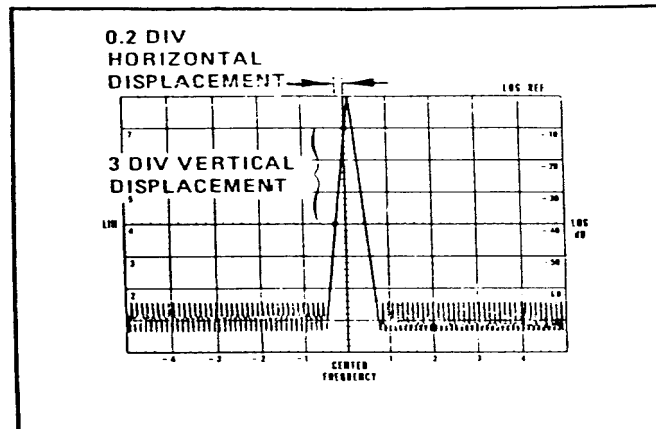

Figure 14. Local oscillator stability
- (2) Position TI controls as listed in (a) through (e) below:
- (3) Set IF plug-in **SCAN TIME PER DIVISION** switch to 2 ms and **LOG/LINEAR** switch to **LINEAR**.
- (4) Adjust signal generator output for 100 MHz CW at -30 dBm.
- (5) Adjust **LINEAR SENSITIVITY** control and **LINEAR SENSITIVITY (LOG REF LEVEL vernier)** vernier control as necessary to obtain a full 8-division display.
- (6) Adjust **FREQUENCY** and **FREQUENCY FINE TUNE** controls as necessary to center display.
- (7) Readjust **FREQUENCY** controls until upward slope of signal pip intersects **CENTER** graticule line one division from top graticule line as shown in figure 14. Note where slope of display intersects center horizontal graticule line and record horizontal displacement (fig. 14).
(10) Set **SCAN WIDTH** (red) switch to **ZERO** and adjust **FREQUENCY FINE TUNE** control to position signal display line so that it appears in the three-division range mentioned in (7), (8), and (9) above (fig. 14).
(11) Measure p-p vertical displacement and multiply by demodulation sensitivity obtained in (9) above. Calculated value will be 10 kHz p-p or less.